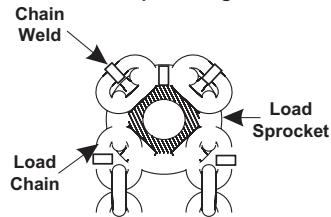

fig.3B
7. Install chain by running a piece of wire or string between chain guide roller and load sprocket and then over and around the load sprocket. Tie the chain to the wire or string and pull it into the hoist so that the first link is standing on edge in one of the slots of the load sprocket, with the weld away from the sprocket (see fig.3B). Shift the direction knob to neutral position and rotate hand wheel clockwise until the load eaten in the load sprocket . Remove the cotter pin from the slack end pin and slide the pin to one side. Pull the end of the chain under the chain guide roller and hook the last link over the slack end pin, being sure the chain is not twisted. Slide the slack end pin back into position and install the cotter pin through it.